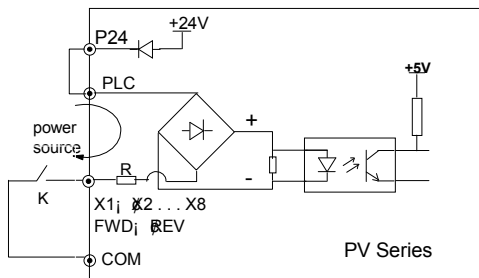

Fig. 3-21 Wire connections when using internal 24V power supply
PV Series X1~X8 multi-function input terminals use full-bridge rectifying circuits as shown in Fig. 3-21. PLC is the common terminal of terminals X1~X8, FWD and REV. The PLC terminal can sink or source current. Wire connections X1~X8, FWD and REV is flexible and the typical wiring is shown below:
① If internal 24V power supply is used, the Wire connections is shown in Fig. 3-21.